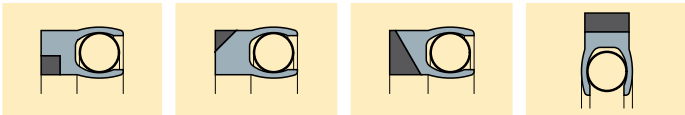

Fig. 6.4 – Non-standard anti-extrusion ring configurations for FlexiSeals®.
- b) Refer to figure 6.4 for additional non-standard anti-extrusion ring configurations.